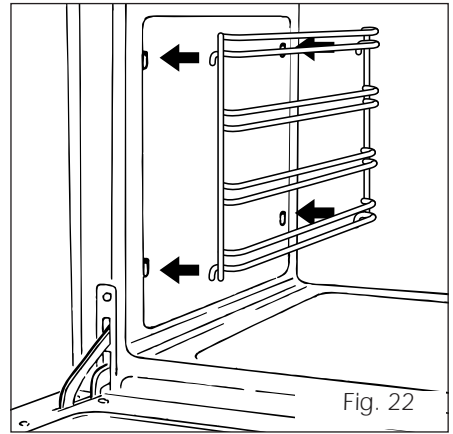

Fig. 22
- Fit the side runner frames into the holes on the side walls inside the oven (Fig. 22).